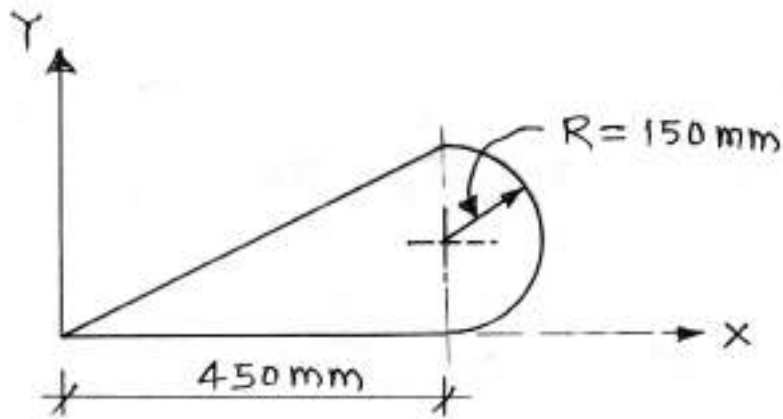

Fig. No. 9.
- b) Locate the centroid of the composite area shown in Fig. No. 9.